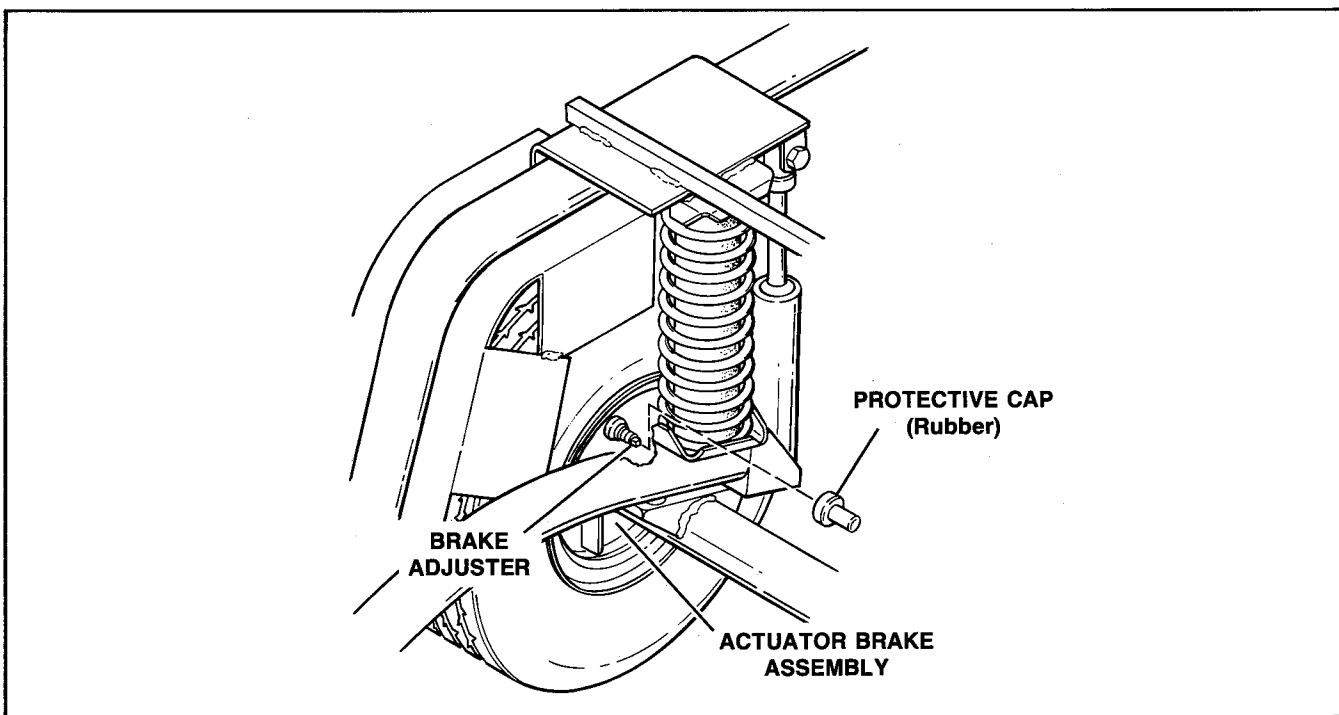

Figure 5-1 – Brake Cable Removal and Adjustment
Brake Cable Removal (Figure 5-1)
- b. Remove rubber protective caps, Figure 5-1, from brake adjusters on brake backing plates.